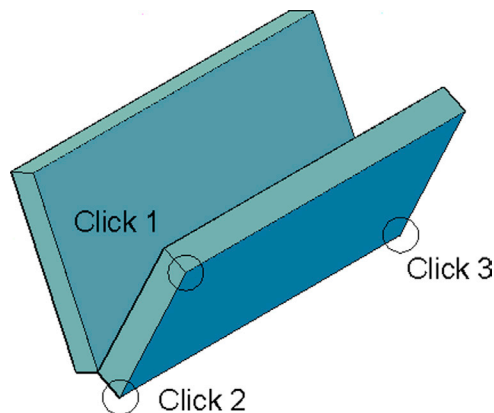

FIGURE 28.6 Refining 3-Point UCS.
Step 2. Select the three points in consecutive order to define a plane, as seen in Fig. 28.6.